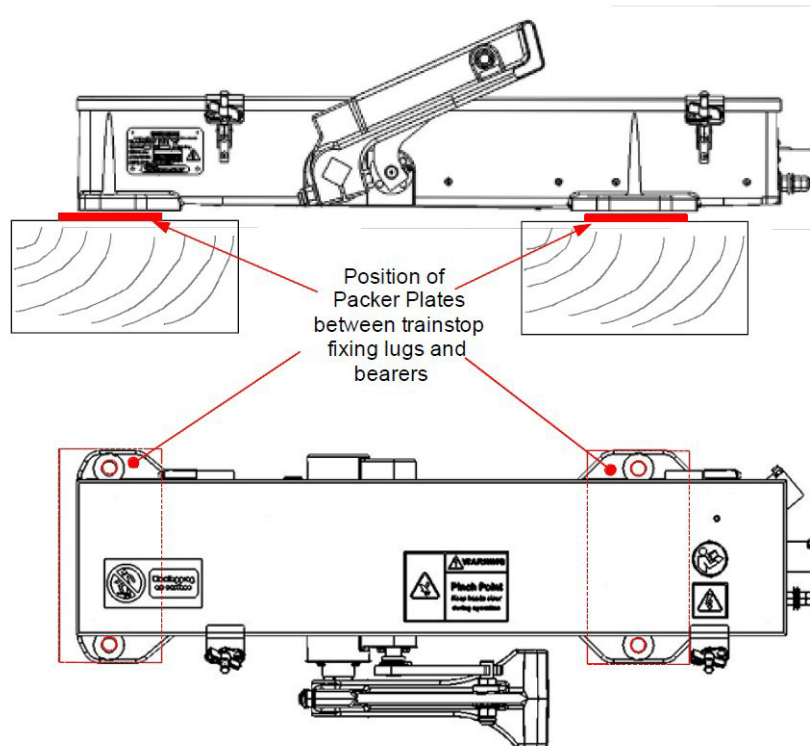

Figure 3 – Position of Packer Plates
- 1.3 If the height is out of tolerance, add or remove Packer Plates (Figure 3).